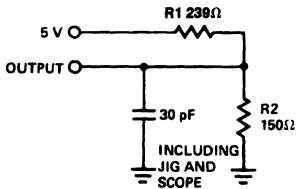

Figure 1a
10. tAA, tACS and tAWE are tested with CL = 30 pF as in Figure 1a. Timing is referenced to 1.5V on the inputs and outputs.